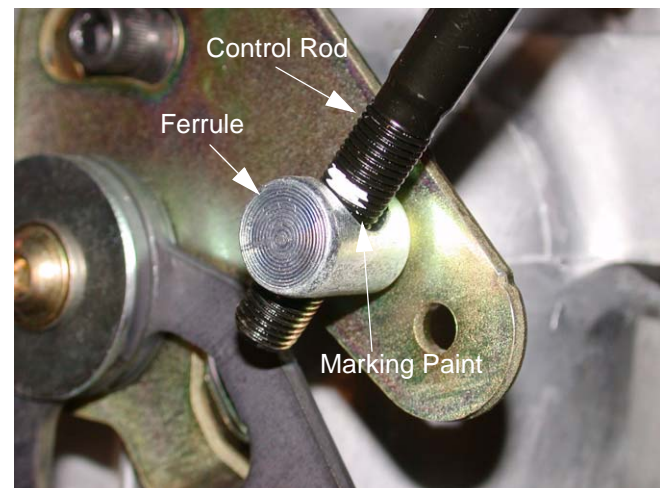

Figure 9.6
- 9.6. Mark the lap bar control rod threads near the ferrule. See Figure 9.6.